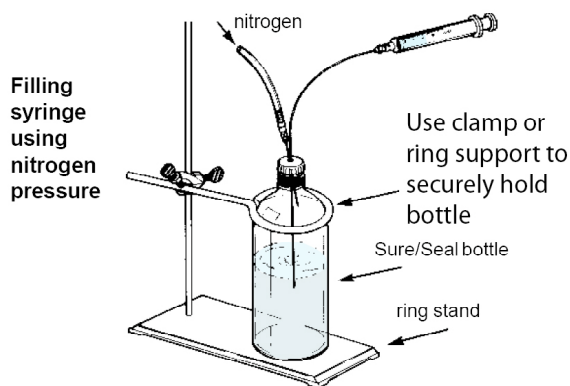

Fig. 2A Filling syringe
- Gently pull the plunger to draw liquid into the syringe (Fig. 2A). Pulling too hard or too fast can cause air bubbles to enter between the plunger and syringe body.